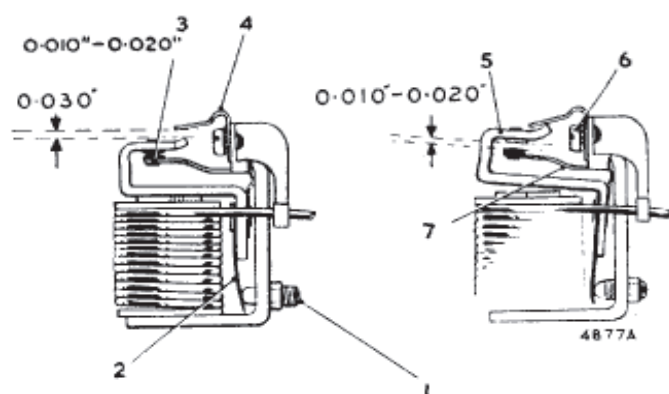

Fig. N.8
If the cut-out operates outside these limits it will be necessary to adjust it to within the limits. To do this slacken the locknut securing the cut-out adjusting screw (1) (Fig. N.8) and turn the screw in a clockwise direction to raise the voltage setting or in an anti-clockwise direction to reduce the setting. Turn the screw only a fraction of a turn at a time and then tighten the locknut. Test after each adjustment by increasing the engine speed and noting the voltmeter readings at the instant of contact closure. Electrical settings of the cut-out, like the regulator, must be made as quickly as possible because of the temperature rise effects.
Similarly, the fixed contact blade must be bent so that when the armature is pressed **squarely** down against the core face there is a 'follow through' of blade deflection of  $\cdot 010$  to  $\cdot 020$  in. ( $\cdot 254$  to  $\cdot 508$  mm.). See (3) (Fig. N.8).